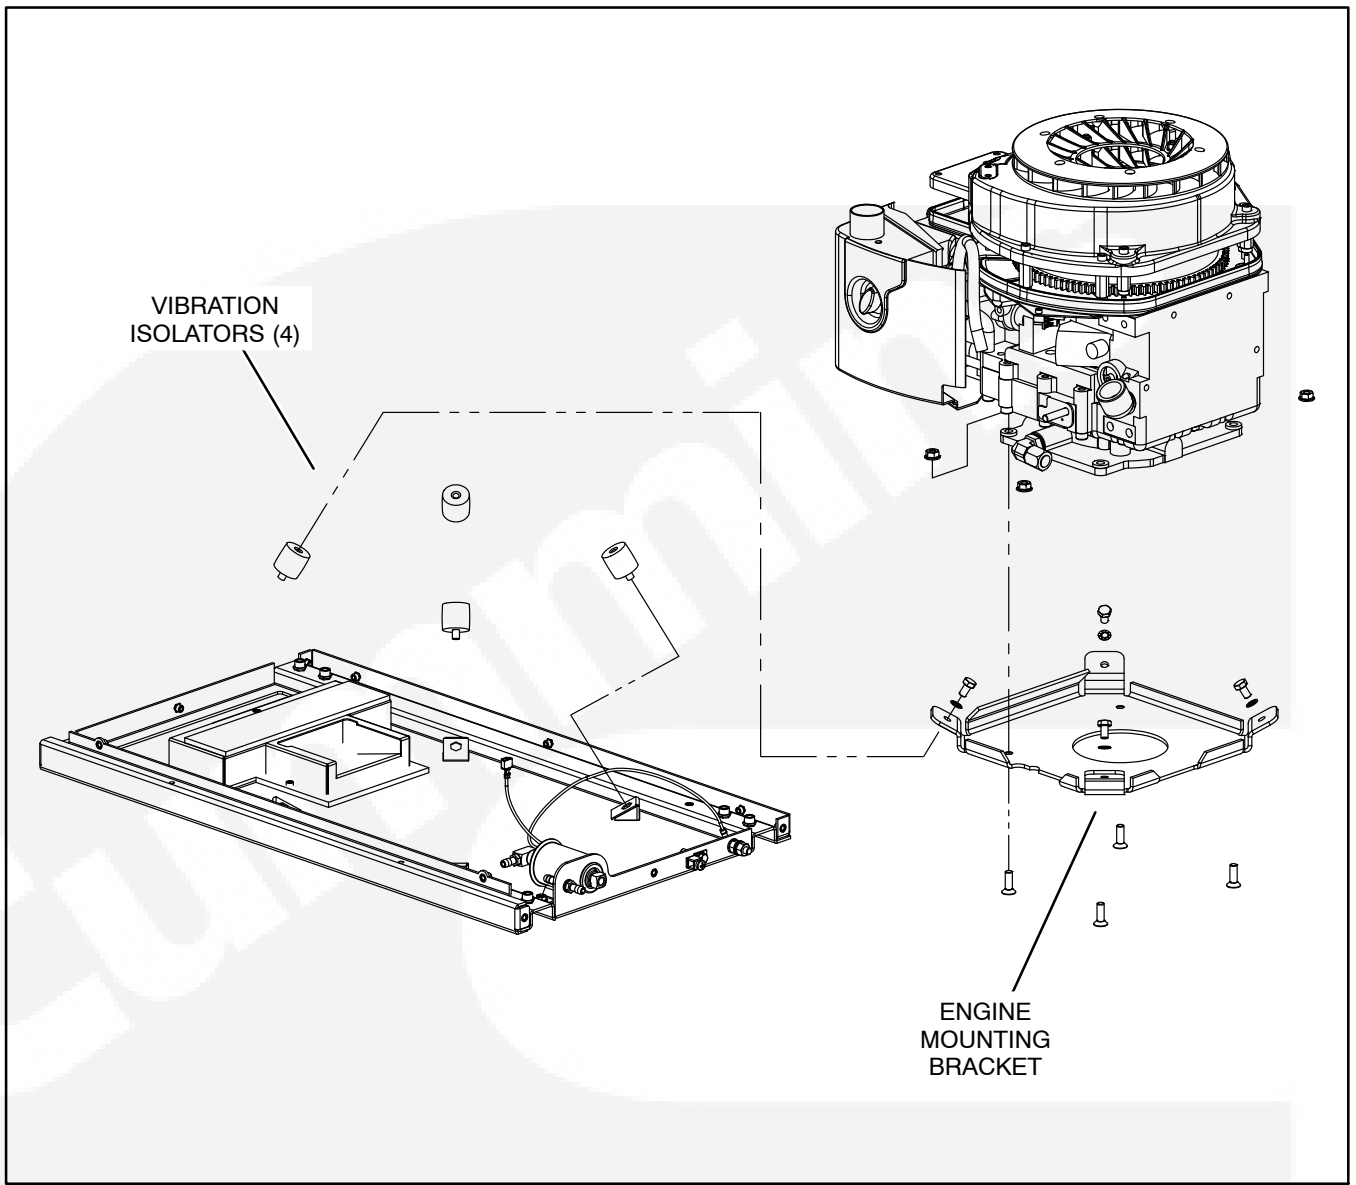

FIGURE 4-6. ENGINE VIBRATION ISOLATORS
7. Remove the Engine/PMA assembly from the four vibration isolator mounts (Figure 4-6).